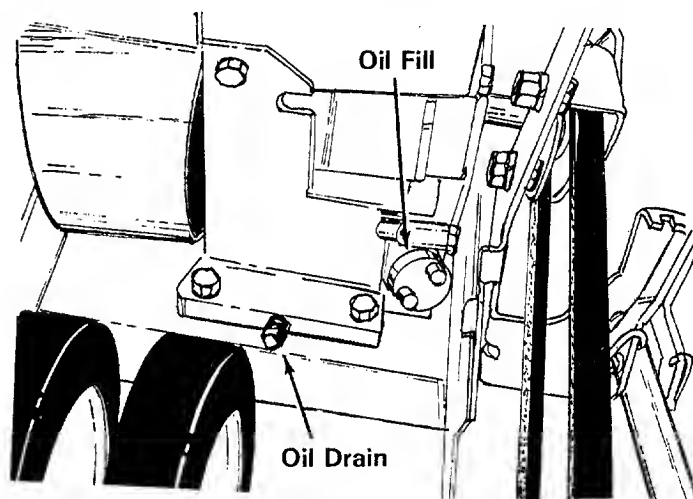

FIGURE 15
1. Fill the crankcase with oil using a high quality detergent oil classified "For Service MS." Nothing should be added to the recommended oil. **SUMMER** — Use SAE 30. **WINTER** — (Below 40 °F.) Use SAE 5W-20 or SAE 10W. Place the engine level. Remove filler plug. **FILL THE OIL SUMP TO POINT OF OVERFLOW.** Pour slowly. See figure 15.
Check oil level before starting engine and after every 5 hours of operation. Add oil as necessary to keep level full to point of overflowing. Before removing plug, clean area around plug to prevent dirt from entering oil fill opening. Refer to figure 15.